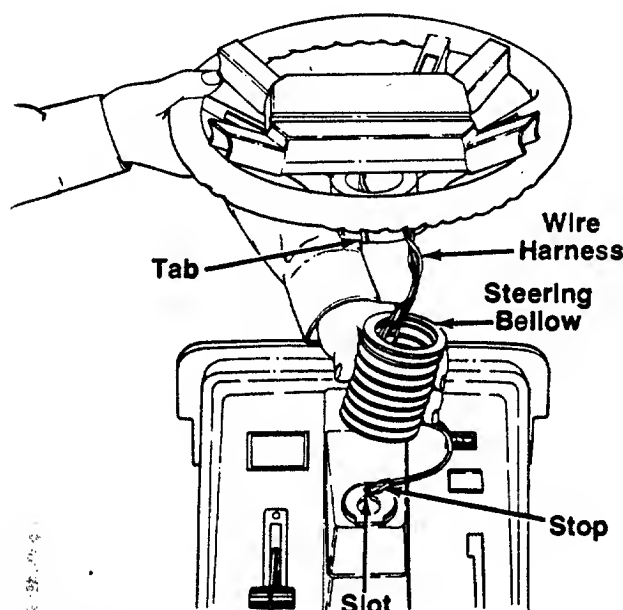

FIGURE 4.
2. Place the larger end of the steering bellow over the wire harness extending through the steering wheel (bellow must fit over the four tabs on the steering wheel). See figure 4.
3. Insert the ends of the wire harness down through the hole in the dash. Then slide the wires through the slot into the smaller hole in the dash to the stop (tape) on the harness as shown in figure 4. Only about 6" of wire will extend beneath the dash.